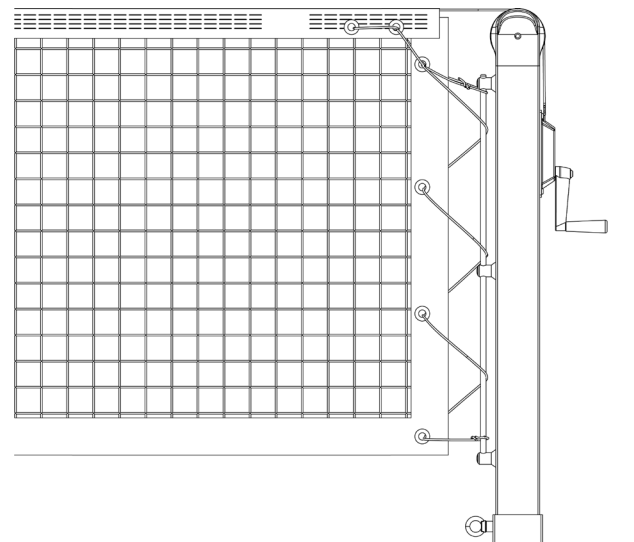

Figure 10
**STEP 10:** Threading the lacing cord through both grommets in the headband of the net one way, and then back through each grommet the other way, and through the top grommet in the sideband of the net. Continue threading the lacing cord around the lacing rod and through each grommet as shown in Figure 10. Apply equal pressure as you lace the net to the post.